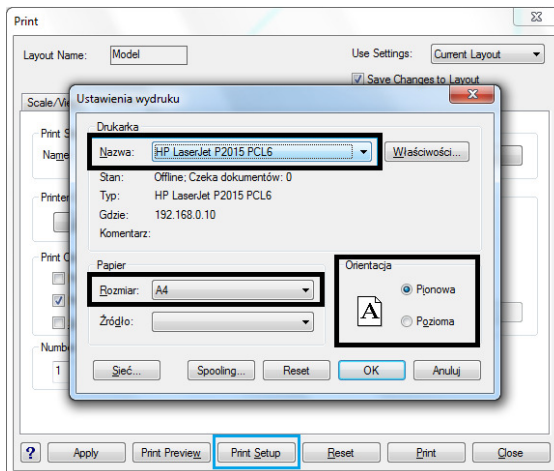

Fig. 332 – printout settings
- then click the **Print Setup** button and select the printer, size of the page (e.g. A4, A3) and orientation - vertical or horizontal (Fig. 332) – and then click **Print**.